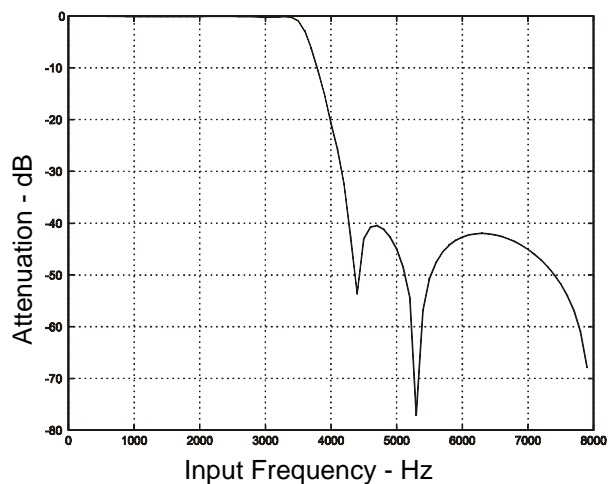
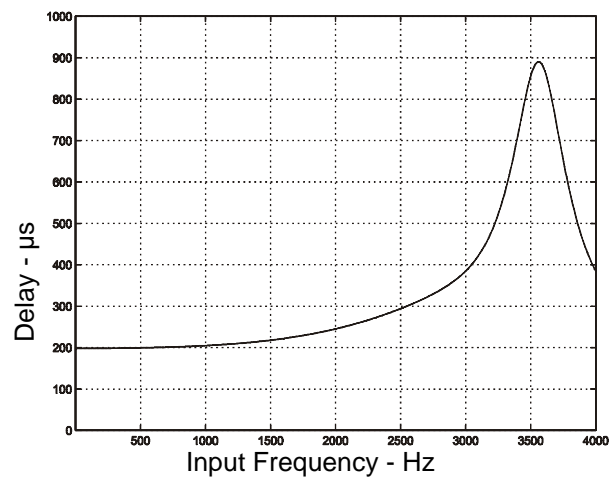

Figure 13. IIR Receive Filter Response
Figure 17. IIR Receive Group Delay
**Note:** Typical IIR filter characteristics for Fs = 8000 Hz are shown in Figures 13, 14, 15, and 16. Figures 17 and 18 show group delay versus input frequency.
For Figures 13–16, all filter plots apply to a sample rate of  $F_s = 8$  kHz. The filters scale with the sample rate as follows: